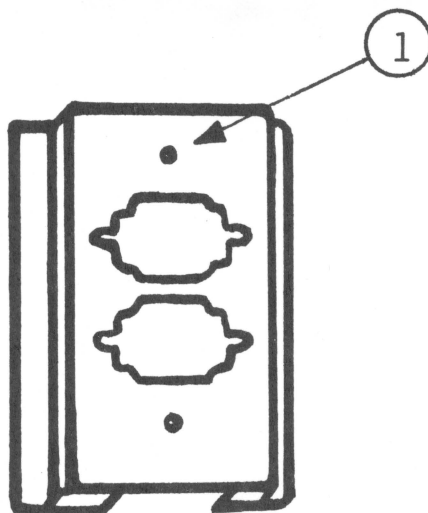

FIGURE 2
2. Find the front piece of the two-piece connector clamp (See Figure 2). The top is the end where the screw hole is nearer the edge (see Figure 2, #1). Put the "D"-shaped connector and nut plate right up against the top opening. The connector should be in direct contact with the clamp, the nut plate should be directly behind the connector, and the part of the connector with the nine small holes in it should be protruding through the opening in the clamp.